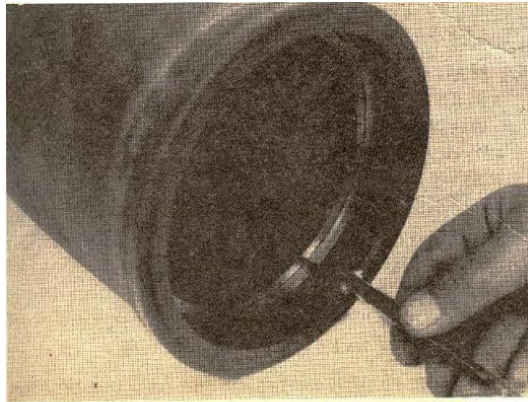

Fig. 1-33. Measure the piston ring gap in the liner
2. Measure the ring gap with a feeler gauge. The gap is to be within the limits listed in Table-1-1 (13). Fig. 1-33.